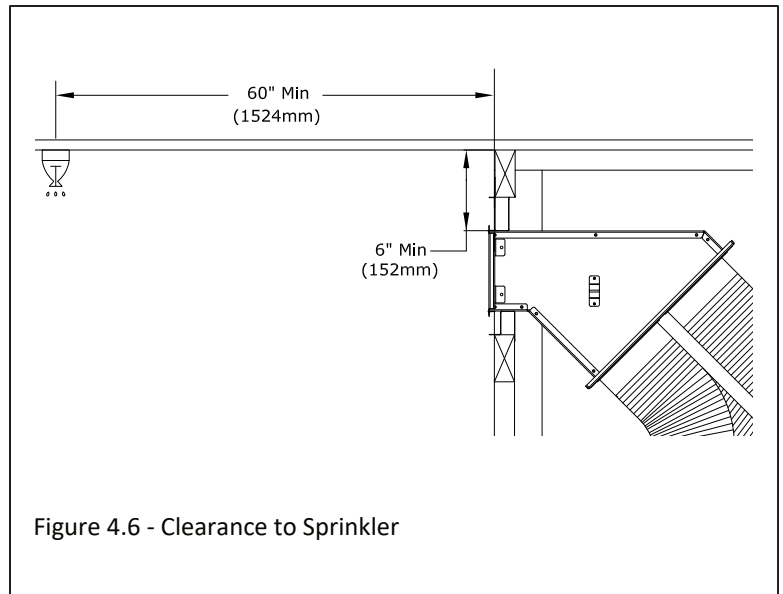

Figure 4.6 - Clearance to Sprinkler
- Figure 4.6 shows a side KZK whereas your installation may look different.